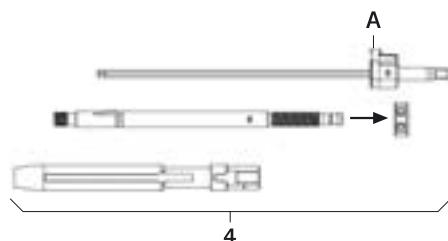

Fig. 1
- To dismount reduction lever 4, see Fig. 1: